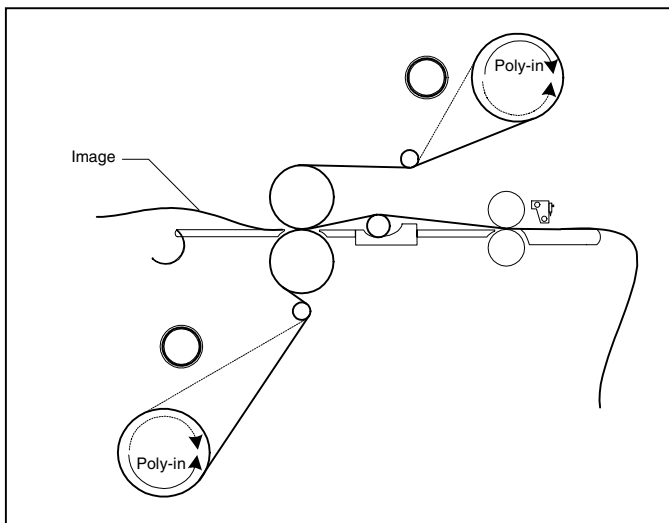

Fig. 42
#### TIPS FOR THERMAL ENCAPSULATION (Figure 42)
1. Load the laminator as illustrated in Figure 42 for Poly-in film.